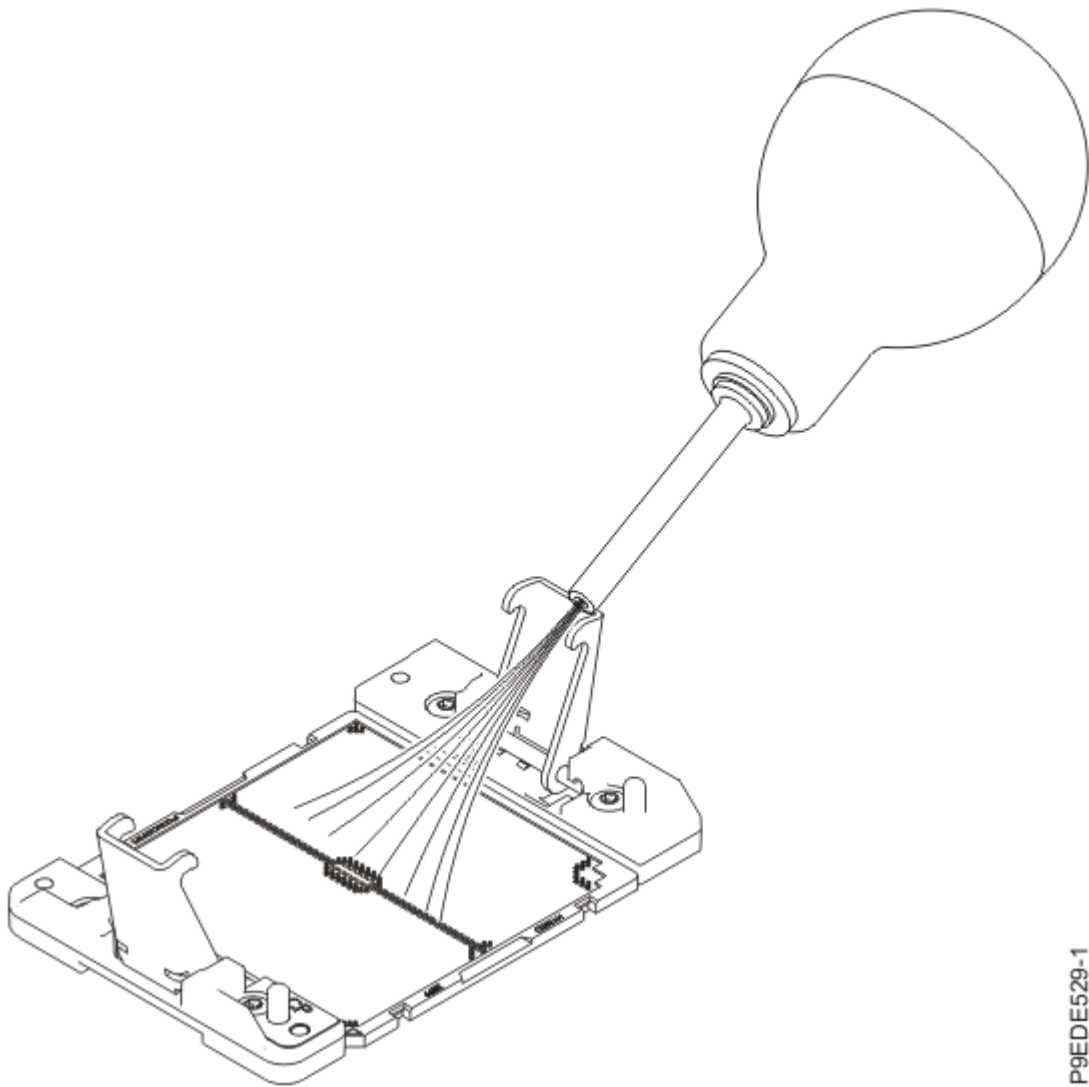

Figure 61. Removing dust and debris from the system processor socket
- a) If dust or debris is present on the system processor socket, use the supplied air pump to clean the socket. Blow small bursts of air from the center toward the sides of the socket, as shown in Figure 61 on page 77.